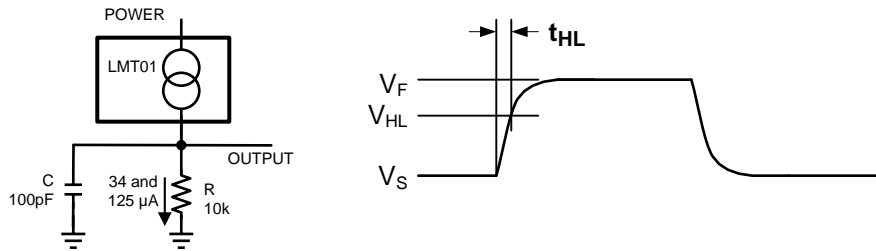

Figure 20. Simple RC Model for Rise and Fall Times
Stray capacitance can be introduced when connecting the LMT01-Q1 through a long wire. This stray capacitance influences the signal rise and fall times. The wire inductance has negligible effect on the AC signal integrity. A simple RC time constant model as shown in Figure 20 can be used to determine the rise and fall times.
- RC as shown in Figure 20
- (2)